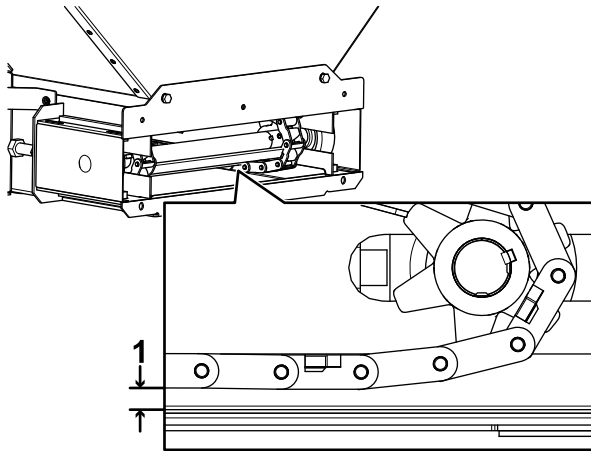

Figure 26
3. Check the gap between the pintle chain and the cleanout tray (Figure 26).